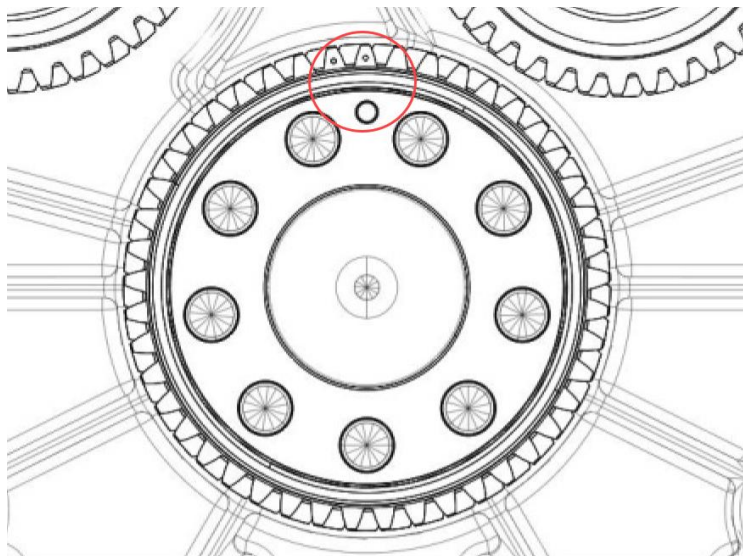

Figure 127.
11. Install the crankshaft timing gear and ensure the dowel pin and both timing marks are at the 12 o'clock position (Figure 127).